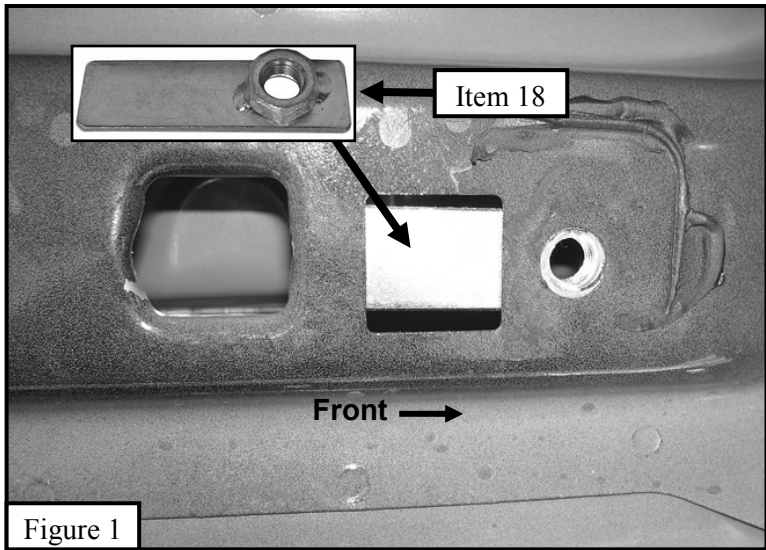

Figure 1
2. Starting at the front driver side mounting location. The bottom rocker mounting hole may be covered by black tape. After removal, insert M10 nut plate through the square hole. Some vehicles may already be equipped with a threaded hole. See **Figure 1**.